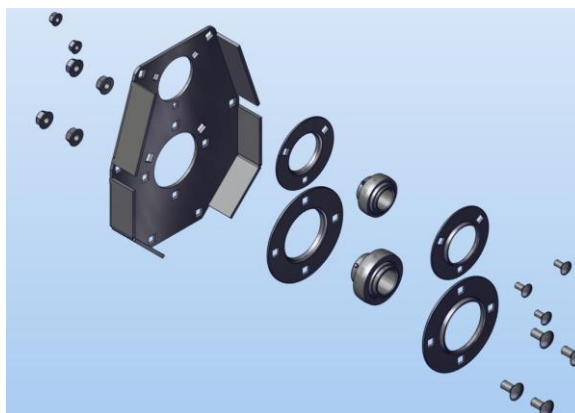

Figure 257
10. Assemble the LH side of the gearcase with the bearings and flanges. Figure 257